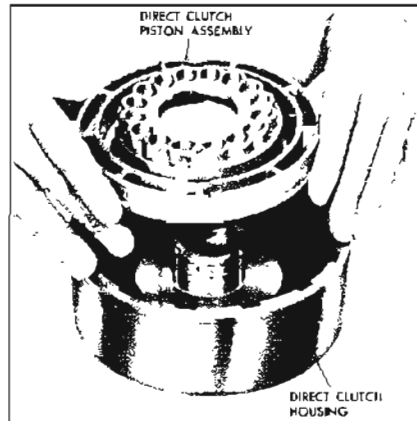

Figure 5-630
7. Remove the direct clutch piston. See Figure 5-630.